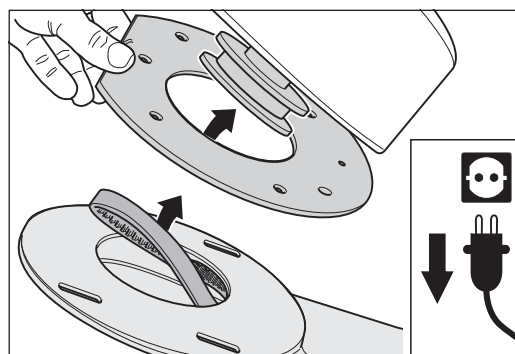

Fig. 72 During the assembly of the fan housing, pay attention to the correct position of the intermediate sheet-metal plate!
- 11 During the assembly of the attachment, pay attention to the correct position of the intermediate sheet-metal plate between the fan housing and the attachment (fig. 72)!